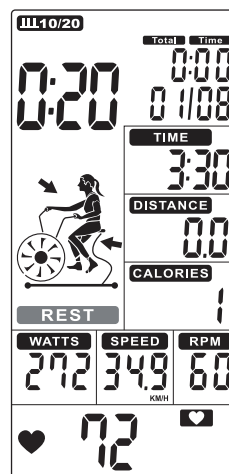
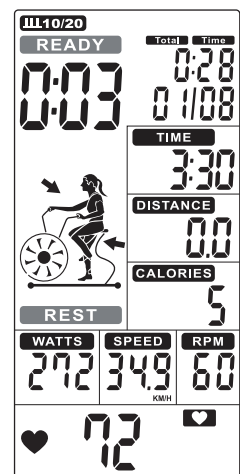

FIGURE 30
FIGURE 31
- The cycle time counts down from 10 to 0 and the word REST blinks once per second along with 10 beeps (Figure 30), while the word READY blinks for the last 3s (Figure 31).